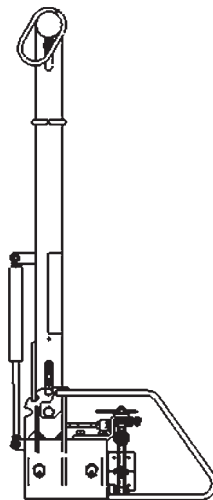

Figure 9.6.5.1 TRAM in the upright or vertical position
66. Remove the M4 Nyloc Nut from the M4 Inner Cable End and discard. See Figure 9.6.5.2.